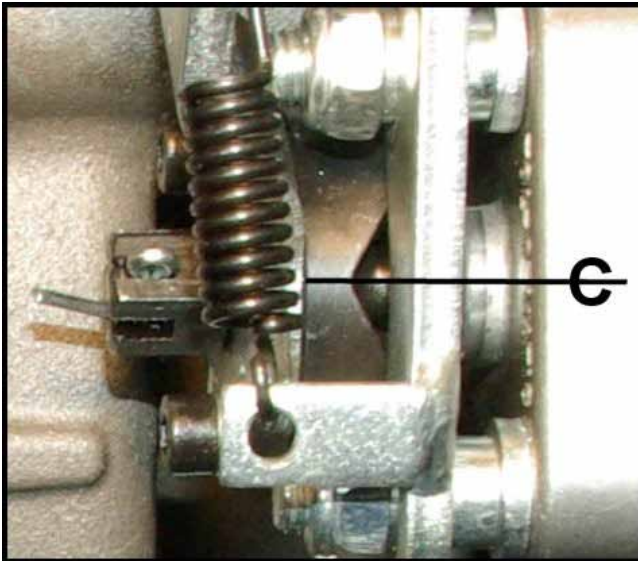

Figure 7-22. Pin Centered in "V-Groove".
4. Adjust the cable at the transmission until the cam levers are actually starting to pre-load the return springs and the cam lever actuation pin on the caliper, is centered in the "v-groove" of the cam. *Figure 7-22.*